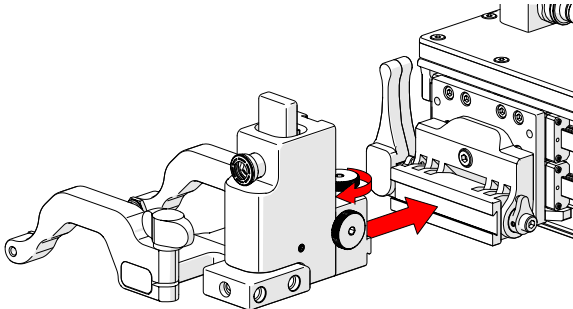

Fig. 72 - Mount probe holder to carrier
1. Loosen the probe holder adjustment knob (*Fig. 72*) and mount the heavy duty vertical probe holder's dovetail jaw to the carrier.